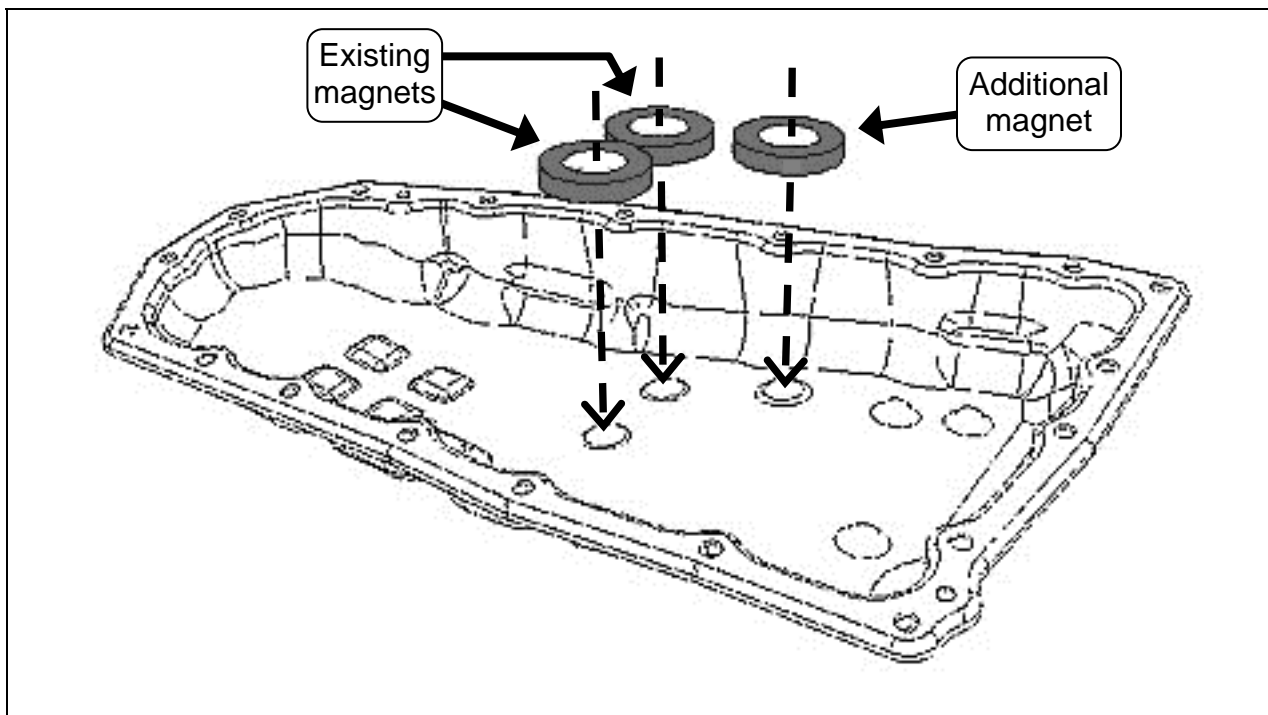

Figure 18
- Install the one additional magnet and two existing magnets where shown in Figure 18.